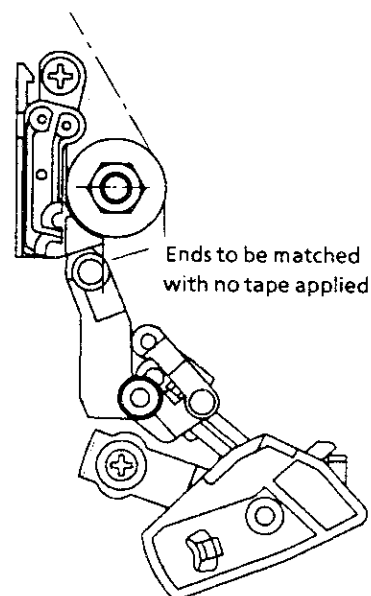

Figure. 2-7-b
5. With the cassette controller in place, run the EC-30 tape at its beginning. Make sure that the tension arm does not come in contact with the cassette controller side. (See Fig. 2-7-a)